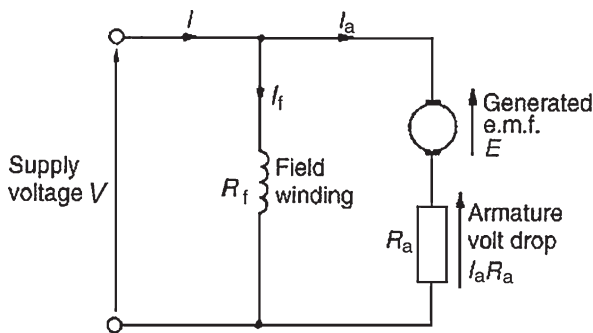

Figure 22.16
In the shunt-wound motor the field winding is in parallel with the armature across the supply, as shown in Fig. 22.16.
For the circuit shown in Fig. 22.16,
- (ii) The armature circuit of a d.c. motor has resistance due to the armature winding and brushes,  $R_a$  ohms, and when armature current  $I_a$  is flowing through it, there is a voltage drop of  $I_a R_a$  volts. In Fig. 22.16 the armature resistance is shown as a separate resistor in the armature circuit to help understanding. Also, even though the machine is a motor, because conductors are rotating in a magnetic field, a voltage,  $E \propto \Phi \omega$ , is generated by the armature conductors. From equation (5),  $V = E + I_a R_a$  or  $E = V - I_a R_a$ . However, from Section 22.5,  $E \propto \Phi n$ , hence  $n \propto E / \Phi$  i.e.